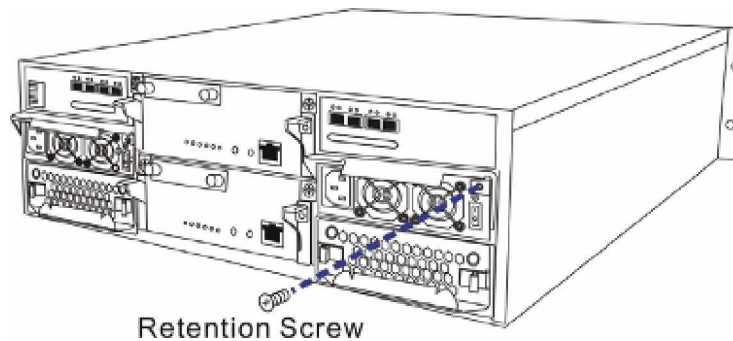

Figure 5-26: Fastening the PSU Retention Screw
*It is recommended that the replacement procedure is completed in less than five (5) minutes to prevent the subsystem from overheating.*
**Step 8.** Insert the new PSU module into the subsystem. Make sure the ejection handle is in its down position so that the saddle notches on the lower edges of the handle can lock on to the edge metal brackets along the chassis inner walls. Push the PSU into the slot and pull the handle upward to secure the module. (See Figure 5-26)
**Step 9.** Secure the PSU to the subsystem by inserting the retention screw to the PSU. (See Figure 5-26)